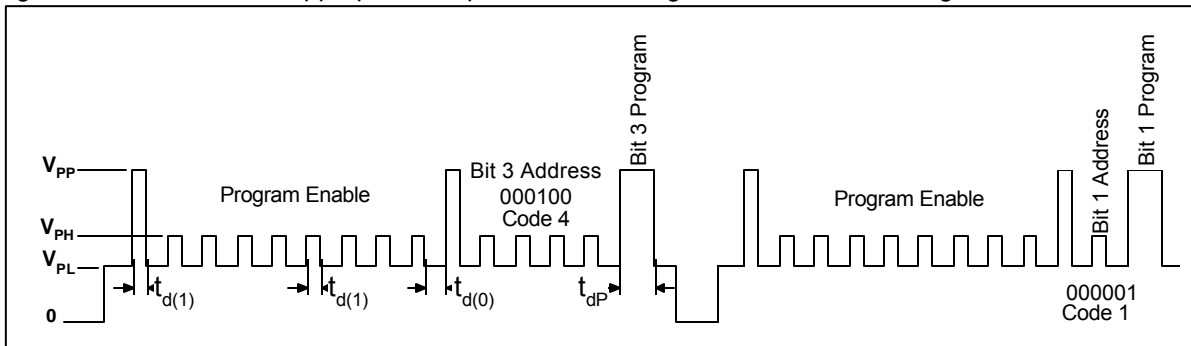

Figure 5 – Code Programming Example
**Code Programming.** After the desired switch point code is selected (0 through 127), each bit of the corresponding binary address should be programmed individually, not at the same time. For example, to program code 5 (binary 000101), bits 1 and 3 need to be programmed. A bit is programmed by addressing the code and then applying a  $V_{PP}$  pulse, the programming is not reversible. An appropriate sequence for blowing code 5 is shown in Figure 5.